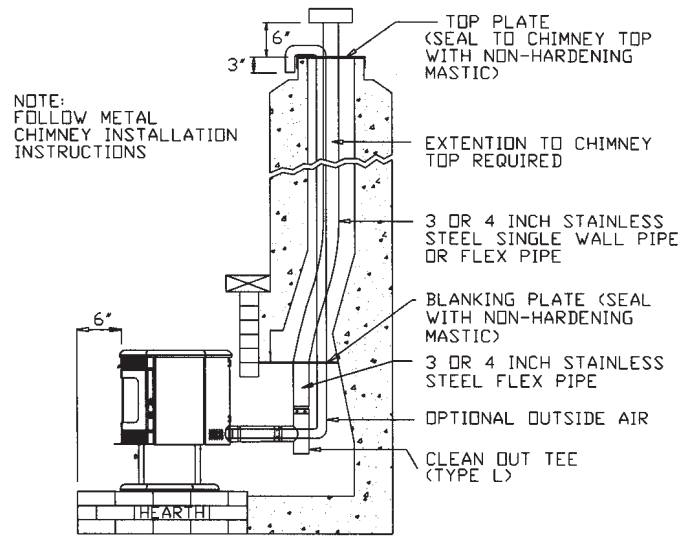

Figure 11
3. Install a blanking plate and the chimney pipe, and if used the outside air pipe, as shown in Figure 11.